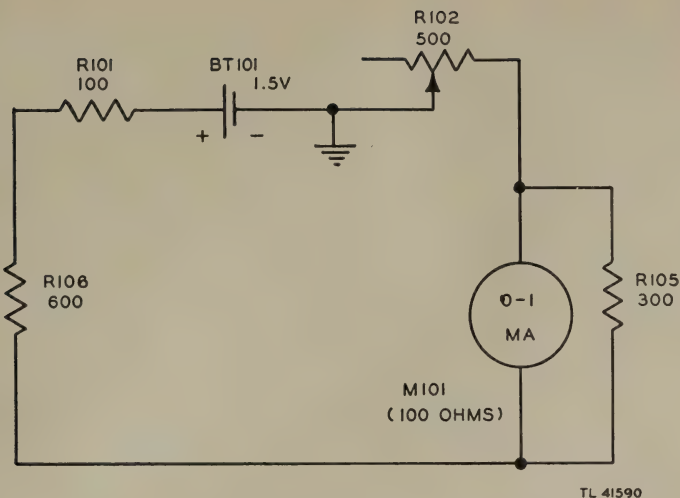

Figure 15. Meter adjusting circuit, schematic diagram.
b. *ADJ METER Position* (fig. 15). With the selector switch in this position (position 1), battery BT101, current limiting resistors R101 and R106 (TS-268/U only), meter M101, and current adjusting resistor R102 (ADJUST METER control) are connected in series. This circuit is used to adjust the meter pointer to full-scale deflection before resistance measurements are made on crystal rectifiers. The adjustment is made by means of variable resistor R102 until sufficient current flows in the circuit to give full-scale deflection of the meter pointer. In this position of the switch, the terminals of the crystal rectifier holder are shorted, thus giving the effect of zero resistance. The meter is shunted with resistor R105 to provide the correct sensitivity for the resistance range.